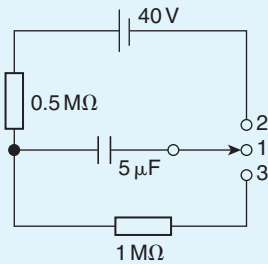

Figure 18.9
- (a) In the circuit shown in Fig. 18.9, with the switch in position 1, the capacitor is uncharged. If the switch is moved to position 2 at time $t=0\ \text{s}$, calculate the
v_R are equal in magnitude but opposite in direction. The current decays exponentially to zero and since v_R is proportional to the current flowing, v_R decays exponentially to zero. Since $v_L = v_R$, v_L also decays exponentially to zero. The curves representing these transients are similar to those shown in Fig. 18.9.